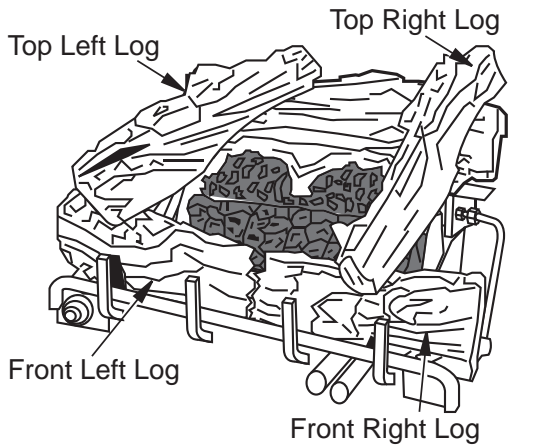

Figure 25 - Installing Logs
- Place top left log as shown in **Figure 25, Page 19**. The bottom of the log is shaped to fit onto the recessed areas of the front left log and the rear log. The recessed areas are painted yellow.
- Place top right log as shown in **Figure 25, Page 19**. The bottom of the log is shaped